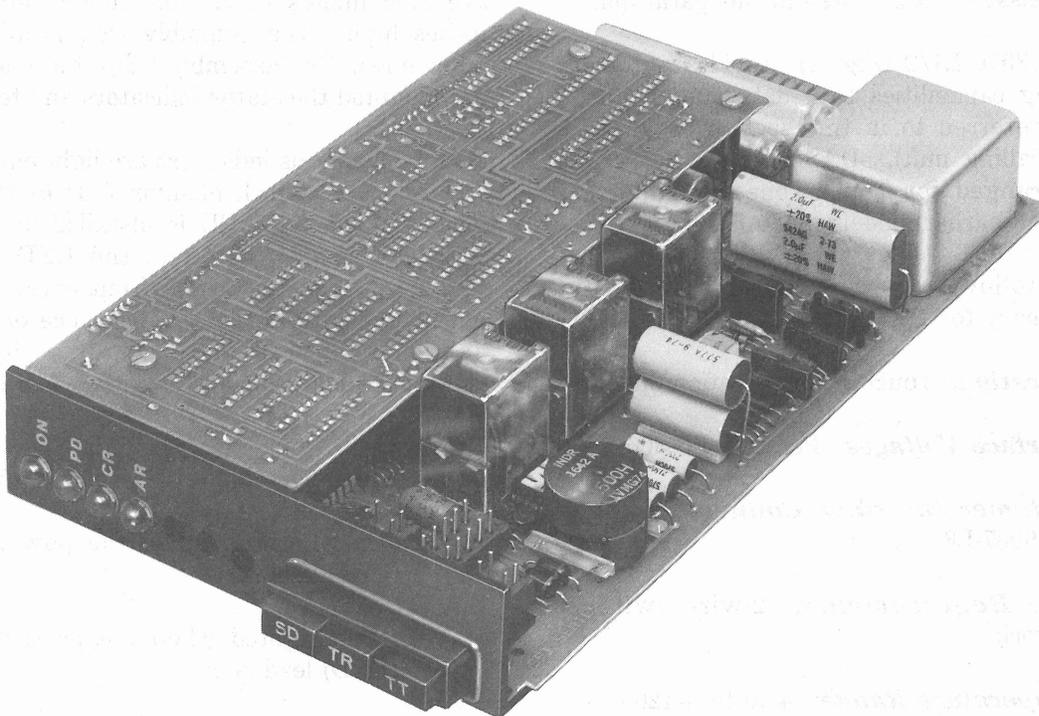

Fig. 2—DAS 801C-L1
- DAS 801C-L1: Printed circuit pack assembly shown in Fig. 2.